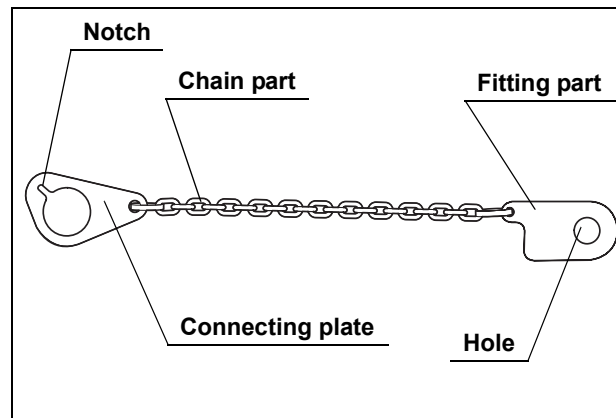

Figure 2.1
1. Confirm that the chain for water-resistant cap is free from cracks, flaws, wear, deformation or other damages (see Figure 2.1).